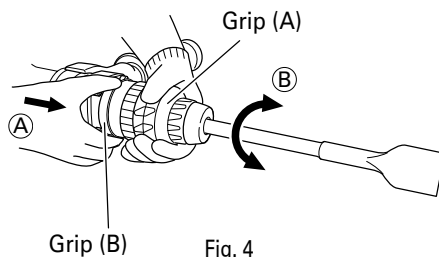

Fig. 4
- As shown in Fig. 4, the blade angle can be freely changed if the grip (B) is turned in the direction of (B) in a state where grip (B) is slid in the direction of (A).